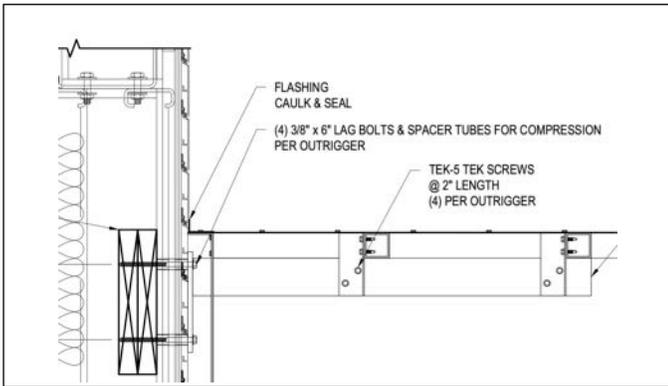
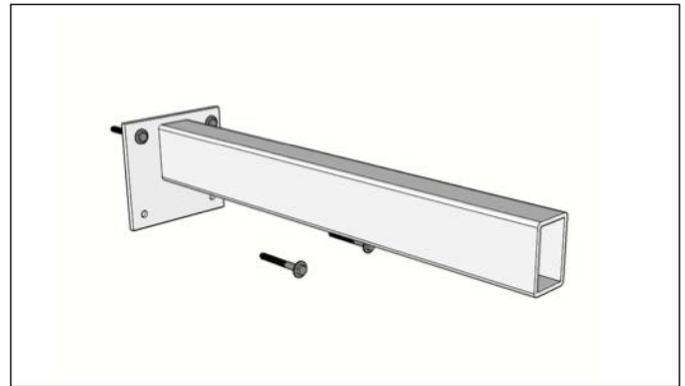

Fig 1
Fig 2
2. Refer to project specific drawing package for intended wall fasteners (Fig 1). Begin installation by laying out tube outriggers (#5) based on the bracket layout shown in the drawings (see fig 2). Use supplied tube outriggers for specific hole patterns.